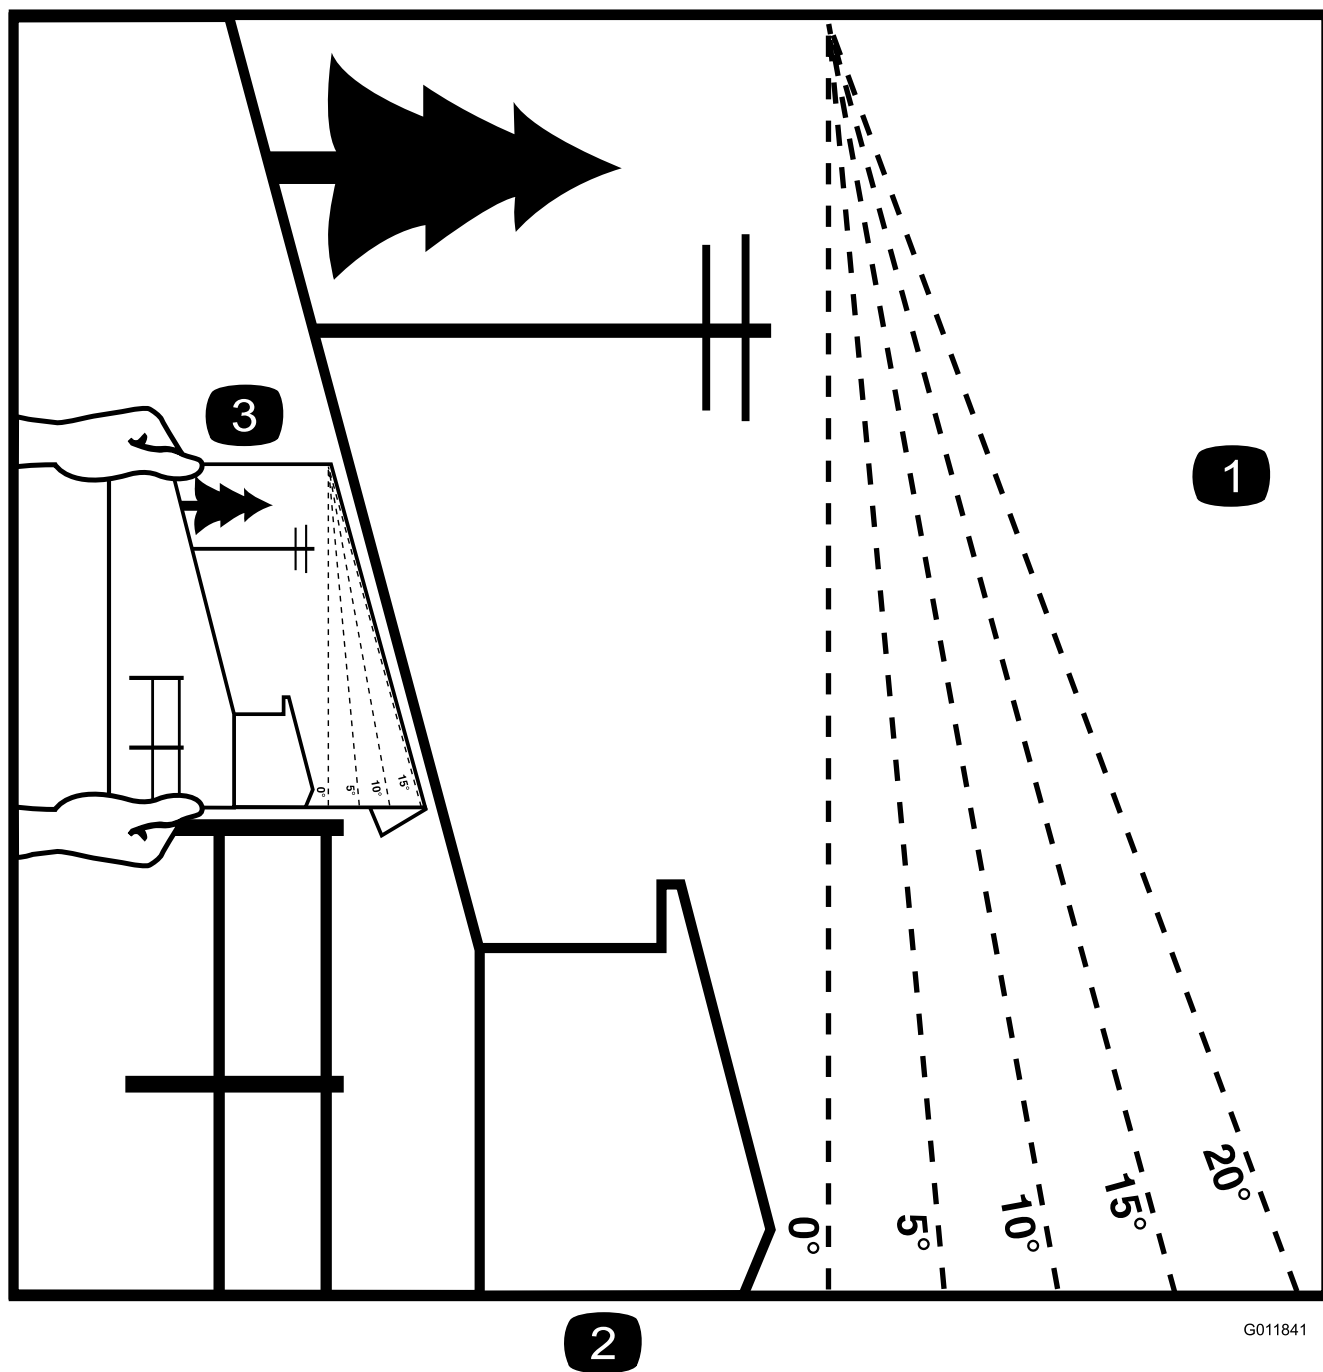

Figure 3
- Use Figure 3 to help you determine the appropriate slope angle of area to aerate.